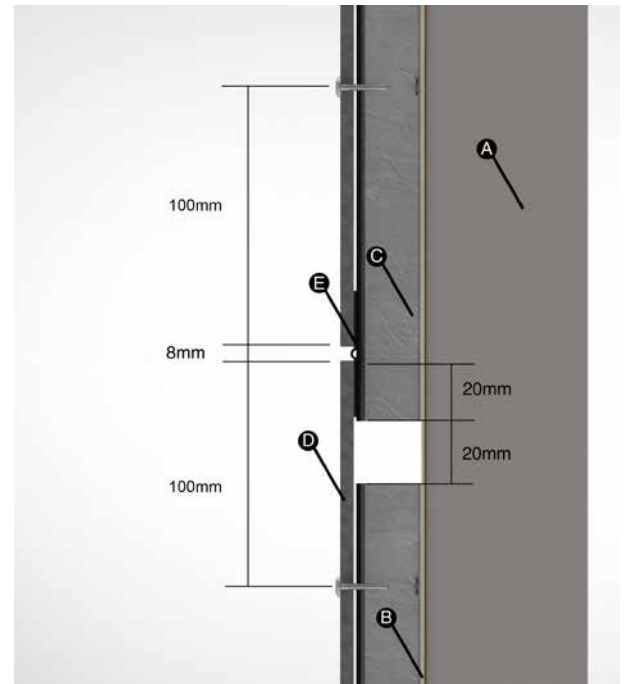

Figure 9.
- Ensure a minimum 20mm gap between the top hats (see Figure 9)